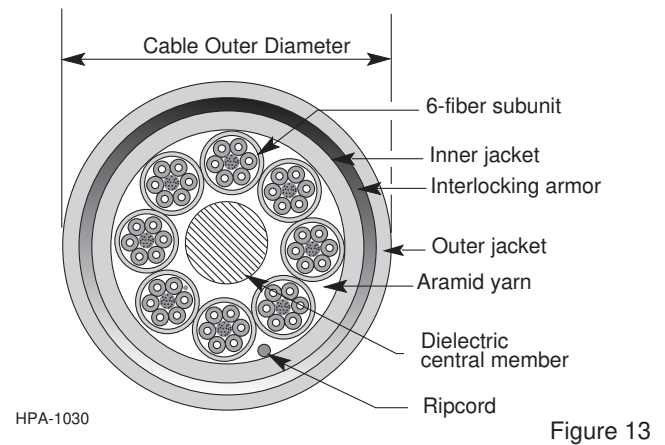

Figure 13
5.1 Prior to installation, the proper size grip must be chosen for the cable to be pulled. Grip selection is based on the outside diameter of the cable (Figure 13).